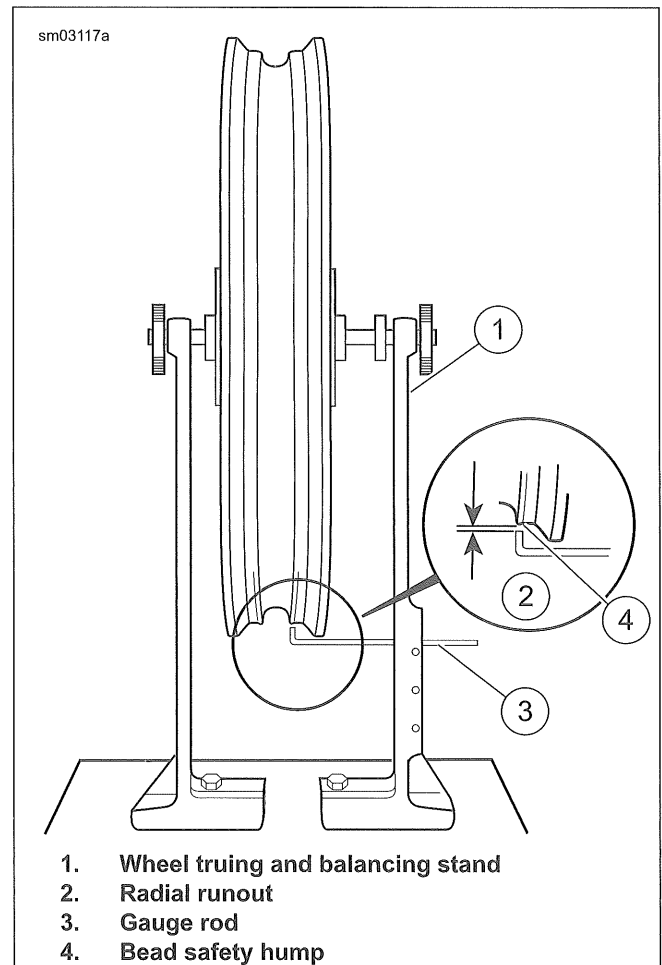

Figure 3-14. Checking Radial Runout
1. See Figure 3-14. Mount wheel in WHEEL TRUING STAND (PART NUMBER: HD-99500-80).